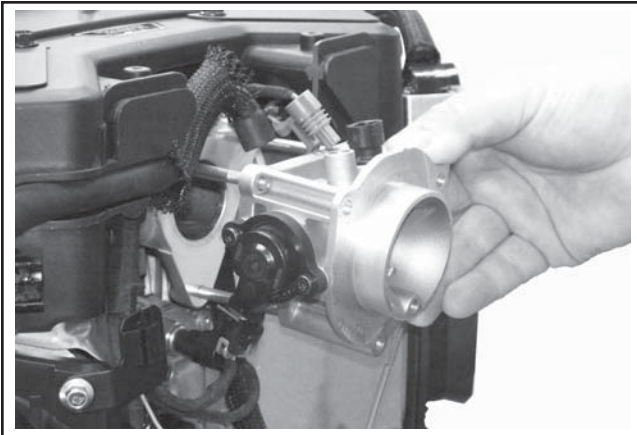

**Figure 10-69. Torque ECU Screws.**
1. Install ECU to the ECU bracket using the two hex flange screws. Torque the M5 screws to **6.2 N·m (55 in. lb.)** into new holes or **4.0 N·m (35 in. lb.)** into used holes. See Figure 10-69.